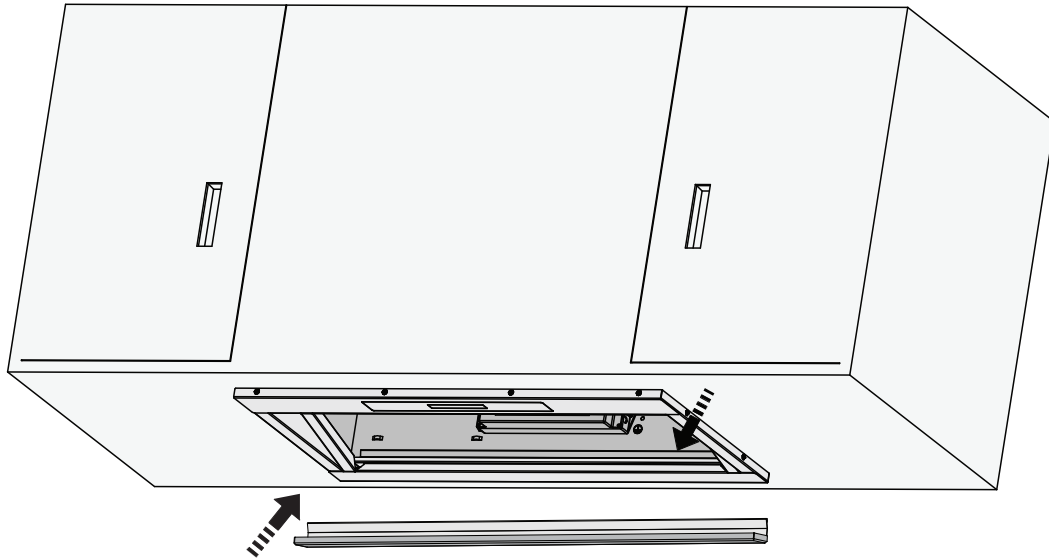

Figure 8
- Angle and insert the oil cup on the rear end of the unit, and push into place (see Figure 8).